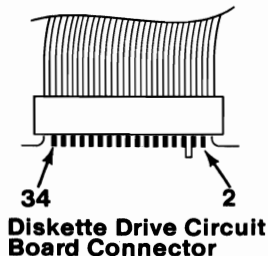

Figure 20. Voltage Check
- Power on the system and monitor the voltage of pin 34 on diskette drive A during the POST (Figure 20). The voltage should be approximately 5 Vdc at the start of the POST and drop to 0 Vdc the **first time** the LED of diskette drive A lights during the POST.